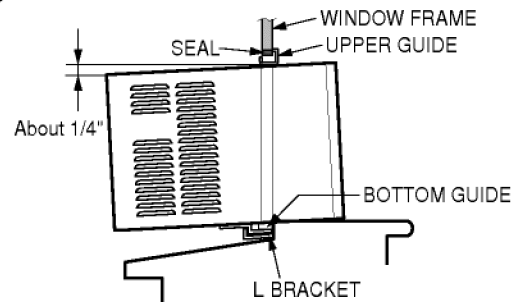

Figure 33
- While steadying the air conditioner, carefully bring the window sash down behind the upper guide of the air conditioner, as shown in Figure 33.